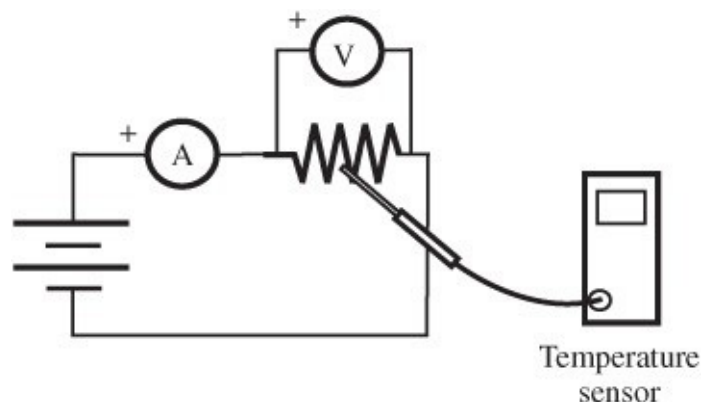

Figure 101-1 Circuit for measuring the effect of heat of resistance.
1. Set up the circuit, as shown in Figure 101-1.